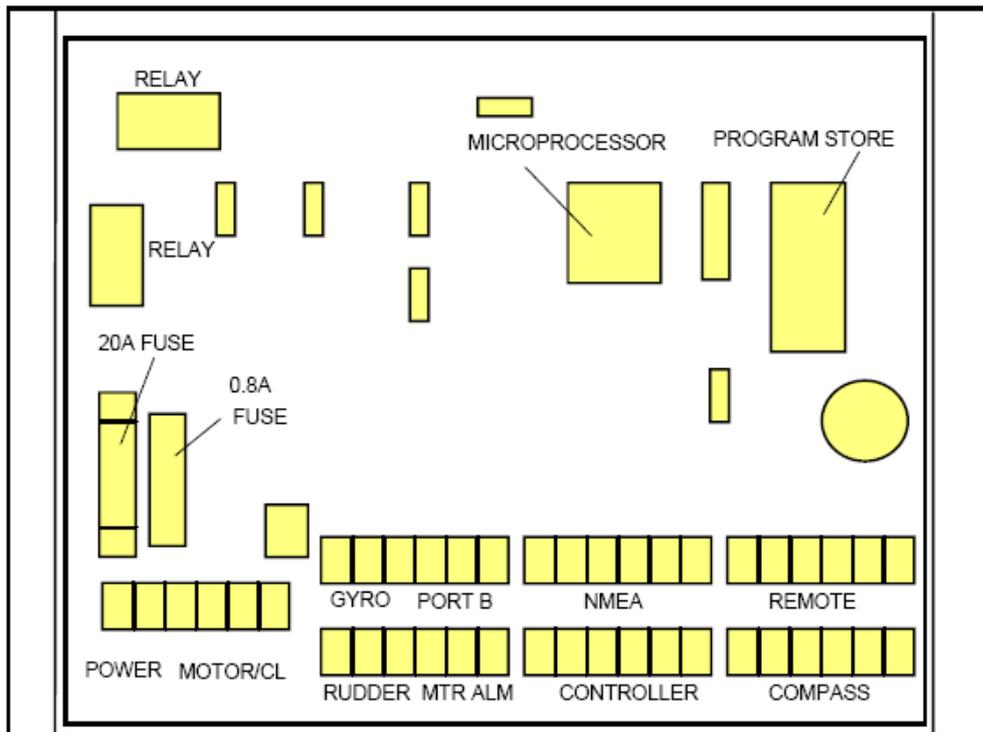

Figure 3.1 Layout of S81.01 Junction Box components and connectors.
The Junction Box should be mounted on a vertical surface with the cable entry holes facing downwards. It should be protected from the weather and be well above the bilge water level in the vessel. Do not mount it in the engine room or other high-temperature location. Two further considerations are that the connection sockets be easily accessible when the lid is removed and that there is a space of at least 50mm on all four sides to permit air circulation. (The outer case forms a heat sink for the internal power components). Fix the case using screws through the two mounting flanges. To open the case, remove the four screws holding the cover flanges to the base and lift the cover. Before commencing the wiring, isolate the vessel's power bus from the power supply. Note that all connections to the Junction Box, except for motor and power, are made to removable plugs. Figs 3.1 show the location of the sockets and principal components for the S81.01
6. Using 20 amp cable, connect the two pump wires to the Motor terminals in the Junction Box (see Figs 3.1 or 3.2), noting that no connection is made to the clutch drive in this type of installation. The polarity of the connection is not important.